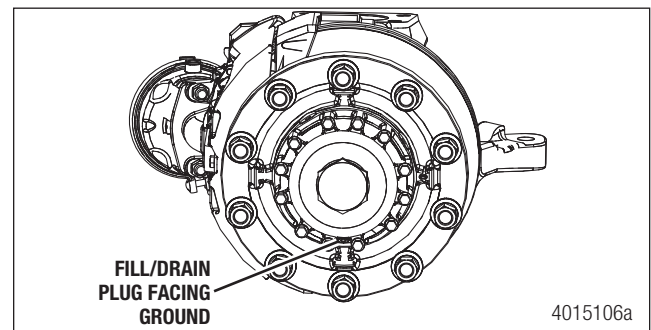

Figure 16.3
- Rotate the wheels so the wheel end cover drain plug is toward the ground (6 o'clock position). Figure 16.3.